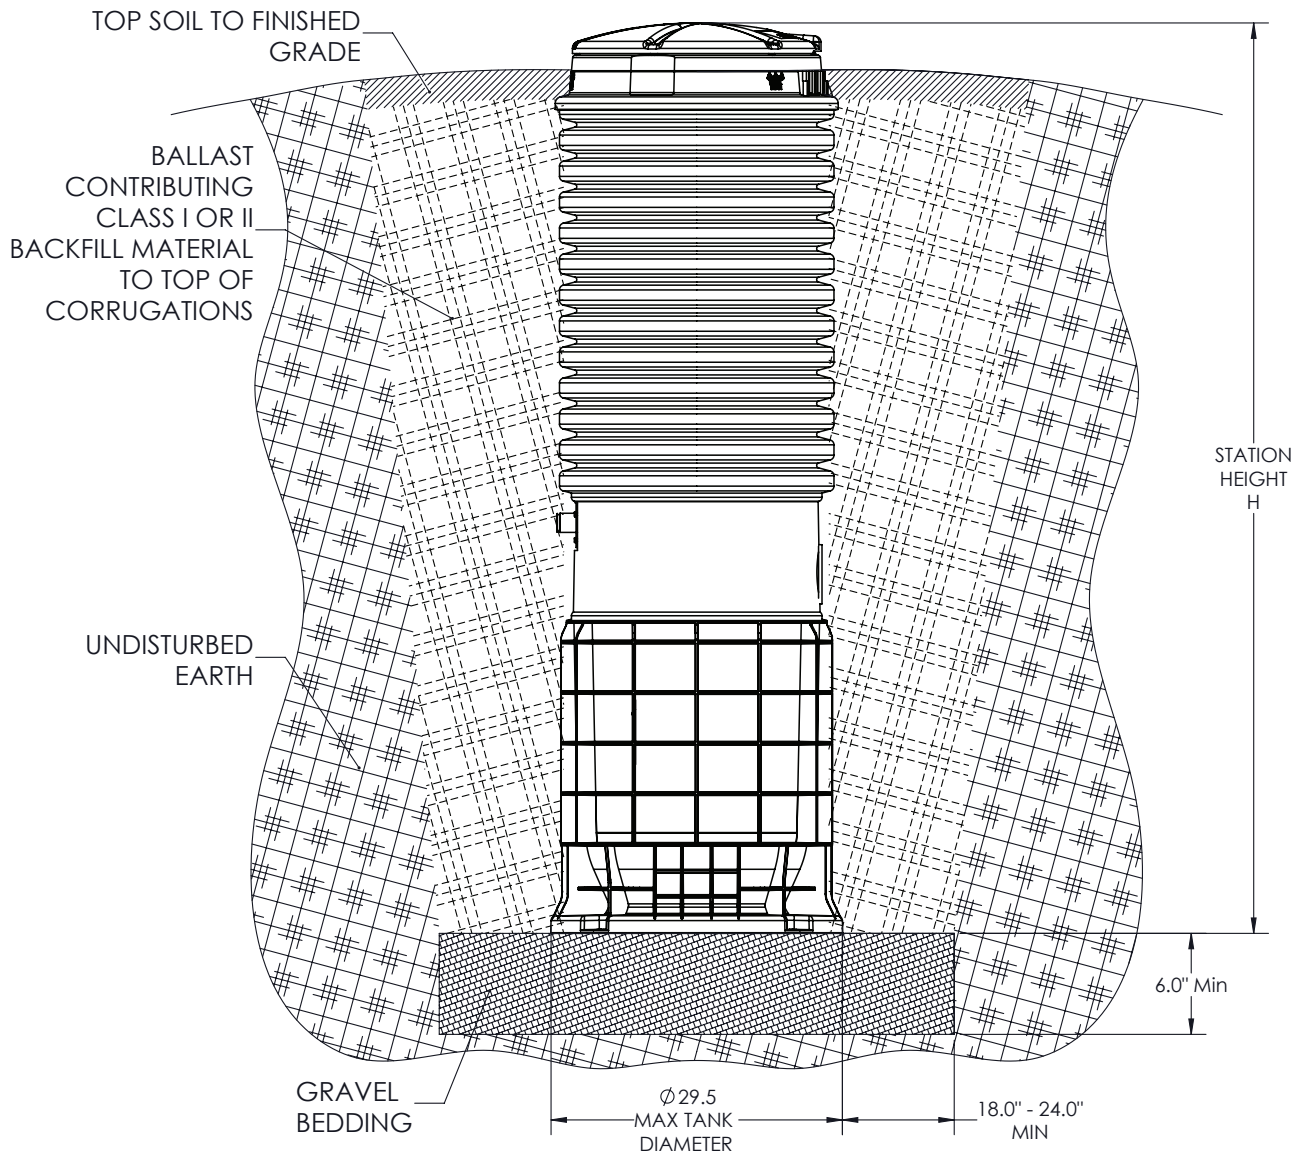

Figure 4
- **If the tank has an accessway (Fig. 1a):** Excavate a hole to a depth so that the removable cover extends above the finished grade line. The grade should slope away from the unit. The diameter of the hole must be large enough to allow for appropriate bedding and backfill installation (Fig 4). Place the unit on a bed of gravel, naturally rounded aggregate, clean and free flowing, with particles not less than 1/8" or more than 3/4" in diameter. DH071 tanks that feature the Universal Wet Well do not require additional concrete anchor to prevent flotation in the presence of high ground water. DH071 tanks with a corrugated bottom section require alternative installation instructions that detail a concrete anchor for ballast. Contact your local E/One distributor for assistance.
**5. BACKFILL REQUIREMENTS (Fig. 4): Proper backfill is essential** to the long term reliability of any underground structure. Several methods of backfill are available to produce favorable results with different native soil conditions.
Unique to the E/One models DH071 and WH101 incorporating an injection molded Universal Wet Well, the bottom flange of the tank is designed to capture a suitable column of backfilled soil to resist the upward buoyant force. The weight of the backfill soil along with the soil shear resistance of the soil can retain the DH071 and WH101 tank in the ground – when properly installed in suitable soil conditions. See figure 4 for proper tank burial.